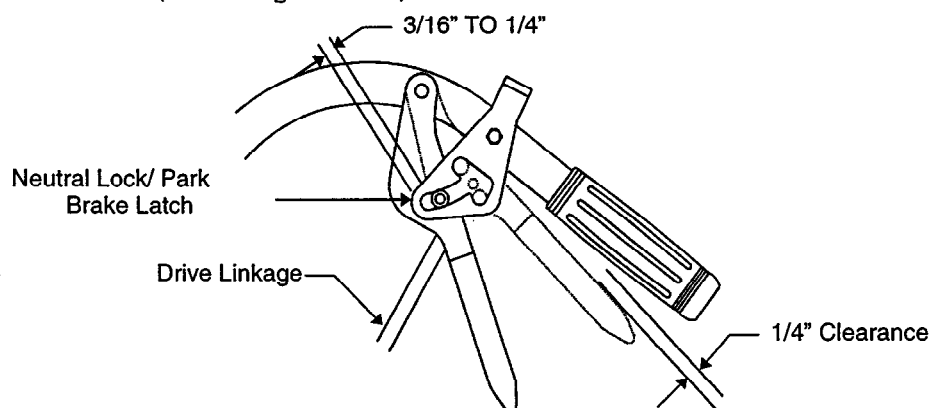

FIG. 10
- c) Adjust drive linkage length by threading into or out of the swivel until there is a $\frac{3}{16}$ " to $\frac{1}{4}$ " clearance between the linkage assembly and the bottom of the slot in the neutral lock lever. (See Figure 10)
- d) Adjust brakes by adjusting wingnut on upper end of each brake rod so that when brakes are engaged there is approximately $\frac{1}{4}$ " of clearance between ends of drive levers and handle grips (See Figure 10)